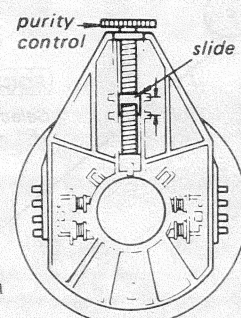

Fig. 3-1.
3. Adjust purity control to center the slide between two projections as shown in Fig. 3-1.